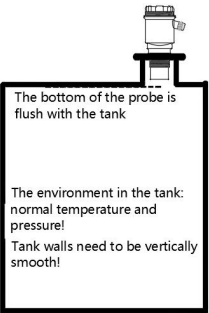
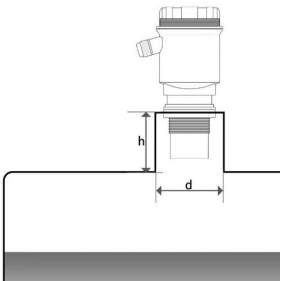
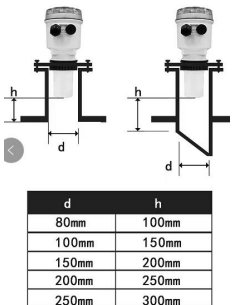

Figure 3
Figure 4
Figure 5
- 5) For flange installation on tanks at normal temperature and pressure, the probe surface of the instrument is best exposed in the tank, as shown in Figure3; if it is not possible in the field environment, the diameter of the pipe fixing the flange is shown in Figure 4 and Figure 5, and the length h is between 100mm-300mm The larger the h value, the larger the corresponding d value.